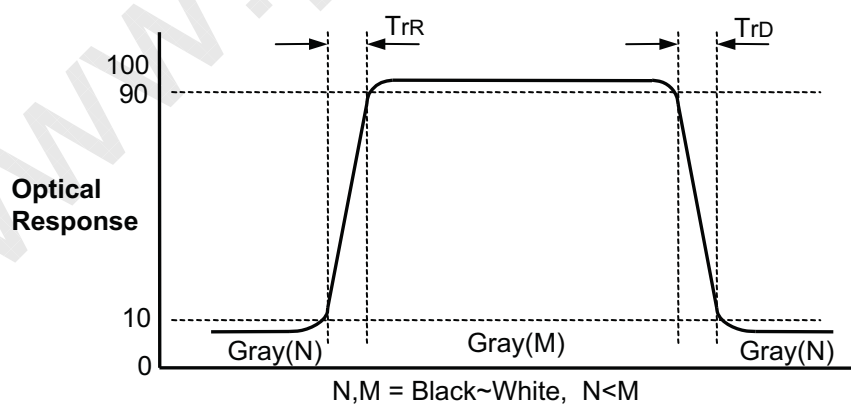

FIG. 3 Response Time
- Response time is the time required for the display to transit from G(N) to G(M) (Rise Time, Tr_R) and from G(M) to G(N) (Decay Time, Tr_D). For additional information see the FIG. 3. (N<M)